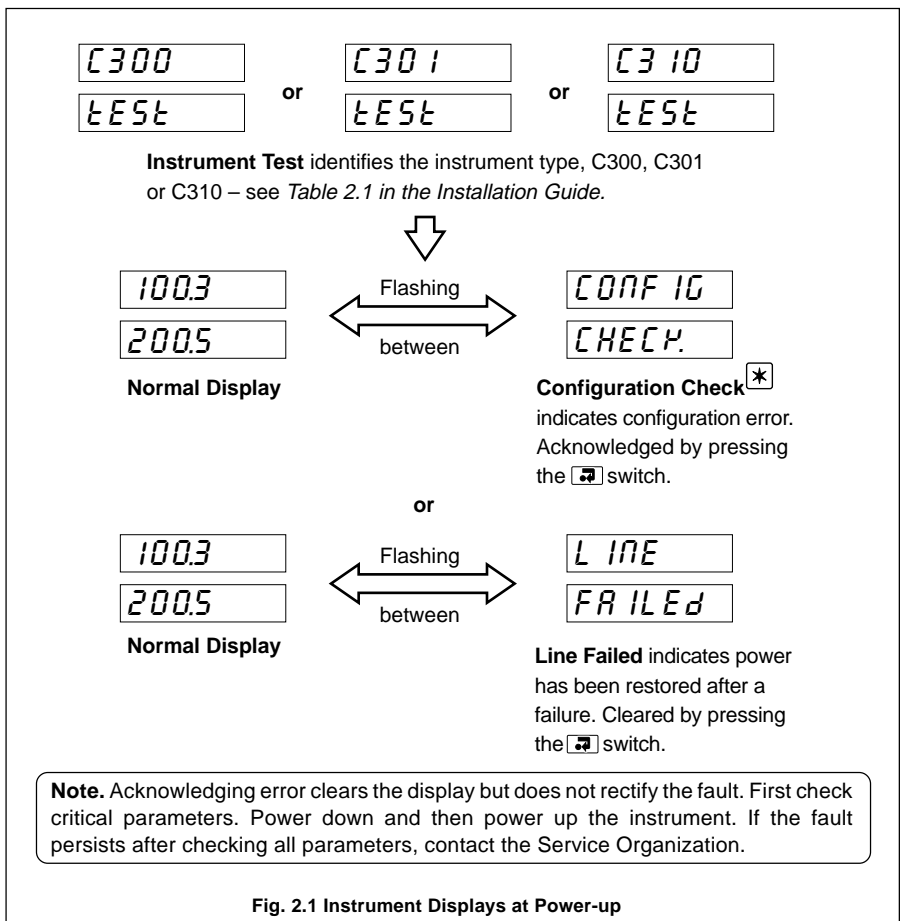

Fig. 2.1 Instrument Displays at Power-up
2.1 Instrument Power-up – Fig. 2.1
- The start-up sequence shown in Fig. 2.1 is displayed when the supply is first switched on.